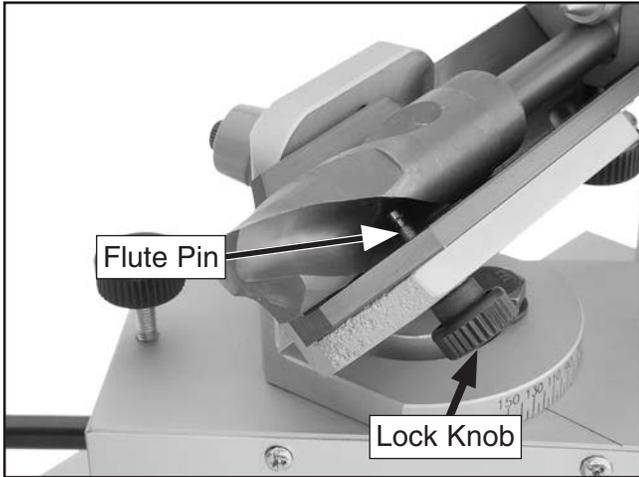

Figure 25. Flute pin in the proper position.
10. Loosen the flute pin lock knob and move the flute pin firmly against a flute until the bit cannot rotate clockwise, as shown in **Figure 25**.